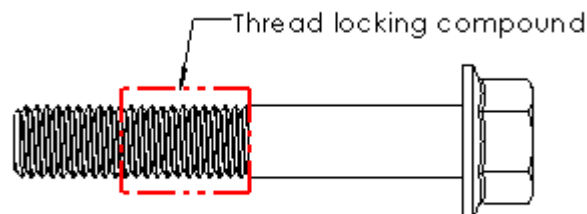

Figure 3
G. Apply a thread locking compound to the bolt thread as shown in figure 3.